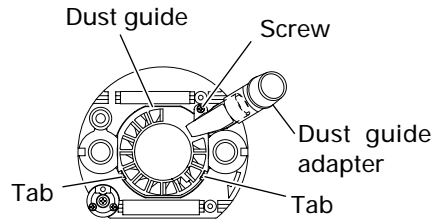

Fig. 16
(4) Dust guide and dust guide adapter (Fig. 16)